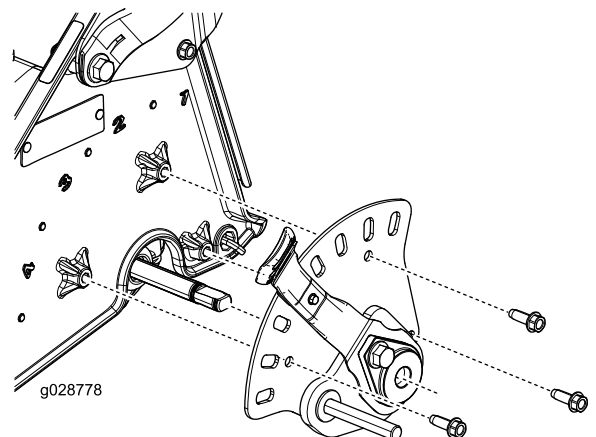

Figure 6
9. Install the height-of-cut assembly onto the machine with the 3 bolts (1/4 x 3/4 inch) as shown in Figure 6.